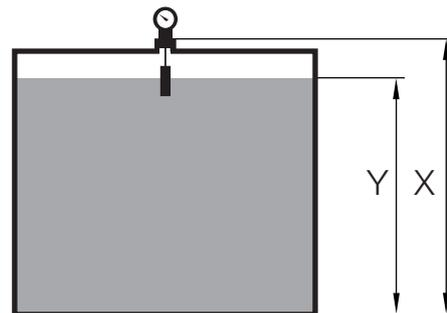

Figure 2
3. Determine the X and Y values (figure 2).